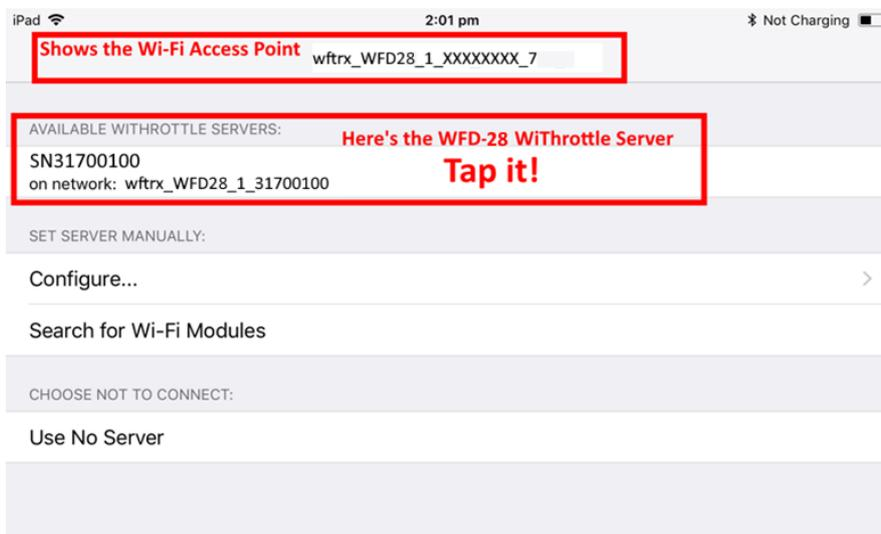

Figure 10 The WiThrottle app Server screen
- (7) Go to the Home Screen and find and open the WiThrottle app by tapping its icon:
- (8) You should see the connection screen headed by “wftrx_WFD2X_1_XXXXXXX_7”. The WFD-2X is a WiThrottle Server and it should appear in the “Available WiThrottle Servers” section, identified by its serial number. If it is visible, tap it as Figure 10. You may sometimes need to wait a few moments or go back to the home screen and tap the WiThrottle icon again.